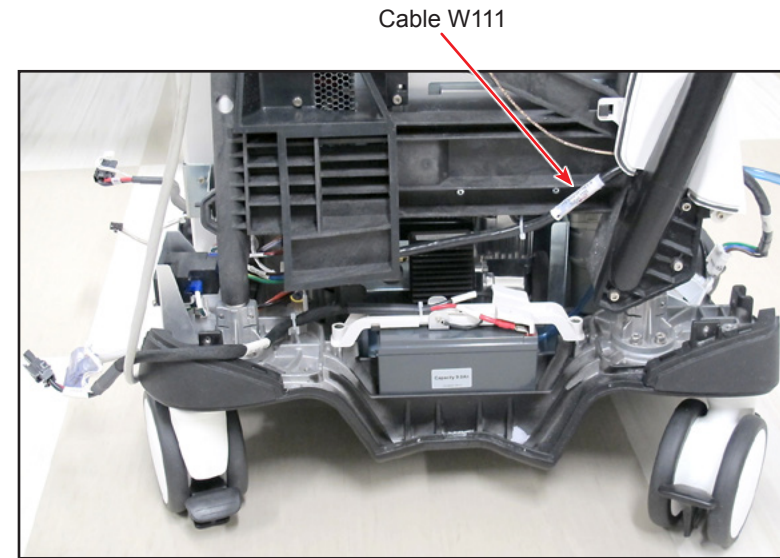

Figure 3-54 Cable W111 Routing Reference
- 45.8 Disconnect W111 P1 from Power Supply and cut two tie wraps securing cable to frame. Move the cable away from frame. See Figure 3-54 for routing of cable during replacement.